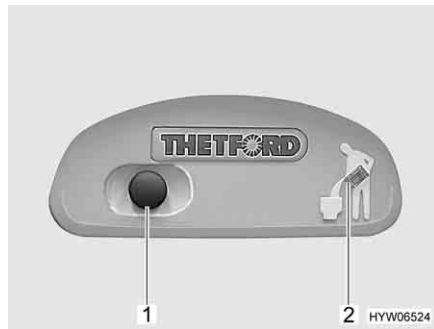
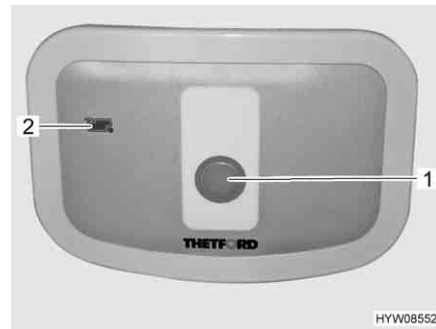

Fig. 258 Flush button/indicator lamp Thetford toilet
Fig. 259 Flush button/indicator lamp Thetford toilet (alternative)
- For flushing, press the blue flush button (Fig. 258,1 or Fig. 259,1).
The indicator lamp (Fig. 258,2 or Fig. 259,2) lights up whenever the sewage tank has to be emptied.